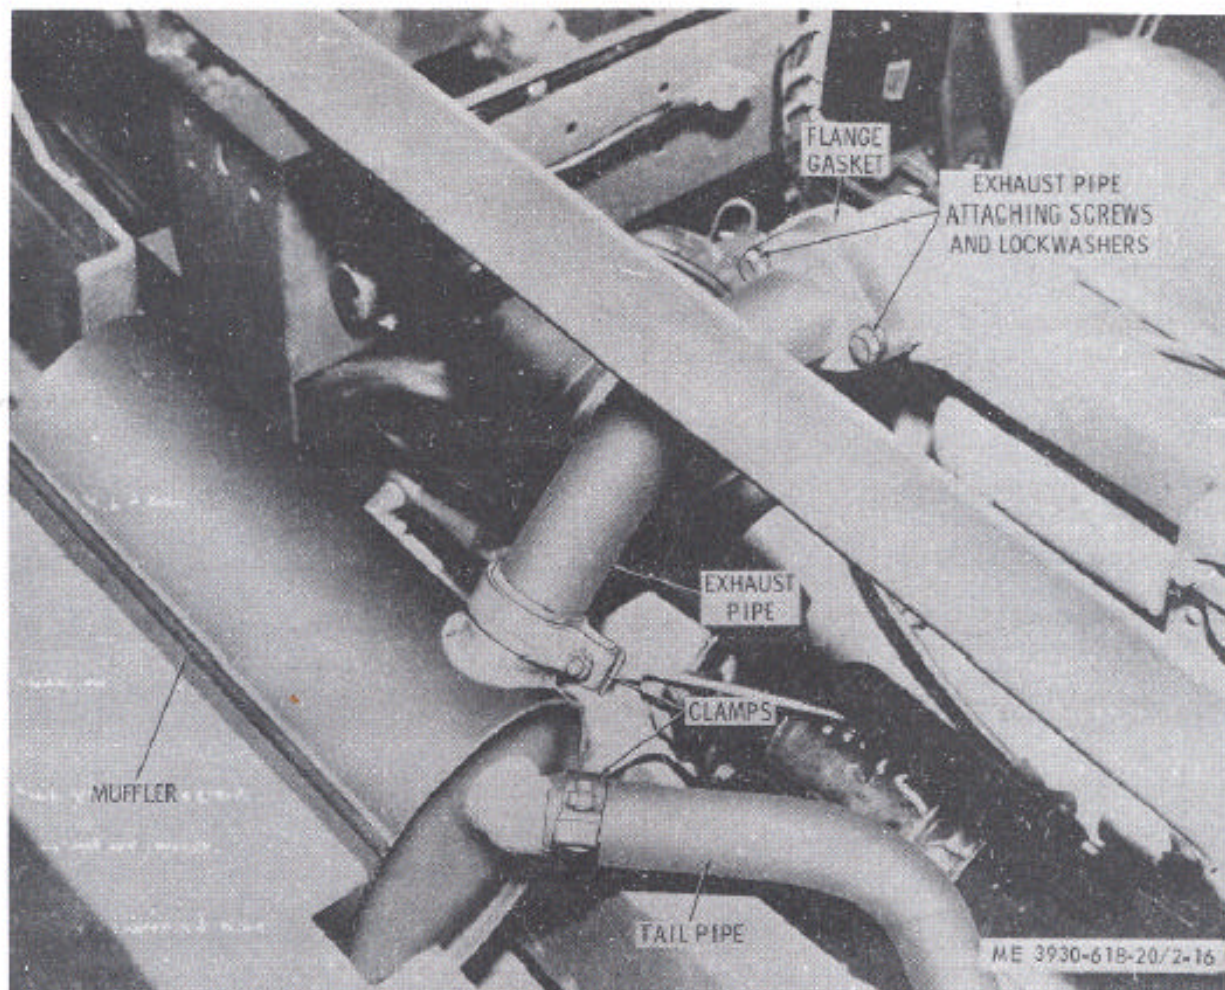

Figure 2-16. Muffer and pipes, installed view.
a. Removal. Refer to figure 2-16 and remove the muffler and pipes as follows:
(1) To remove the muffler, remove the exhaust pipe (2) below and loosen the clamp securing the tailpipe to the muffler. Lift out the muffler.
(2) To remove the exhaust pipe, remove the 2 screws and lockwashers attaching it to the engine exhaust manifold. Then loosen the clamp securing it to the muffler and remove the clamp and flange gasket.
(3) To remove the tailpipe, loosen the clamp securing it to the muffler and remove the rear clamp (not shown). Lift out the tailpipe and sleeve. (not shown).